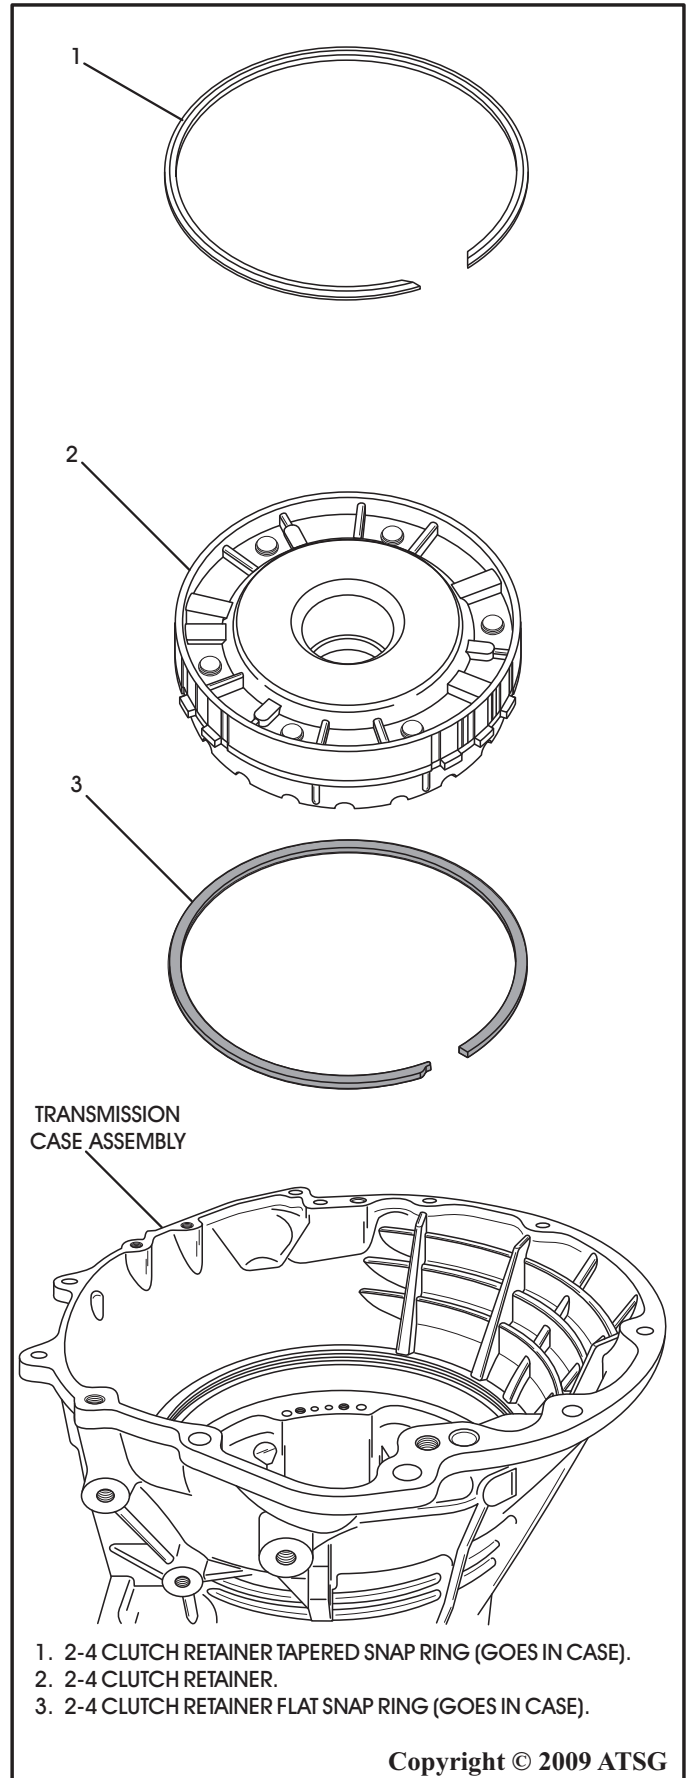

Figure 109
4. Install the 2-4 clutch retainer *flat* snap ring into the transmission case as shown in Figure 109.
5. Install the 2-4 clutch retainer assembly into the transmission case with the oil feed holes toward the valve body area as shown in Figure 109.
6. Install the 2-4 clutch retainer *tapered* snap ring into the transmission case. Ensure that the snap ring open ends are located toward the valve body area. Refer to Figures 109 and 110.